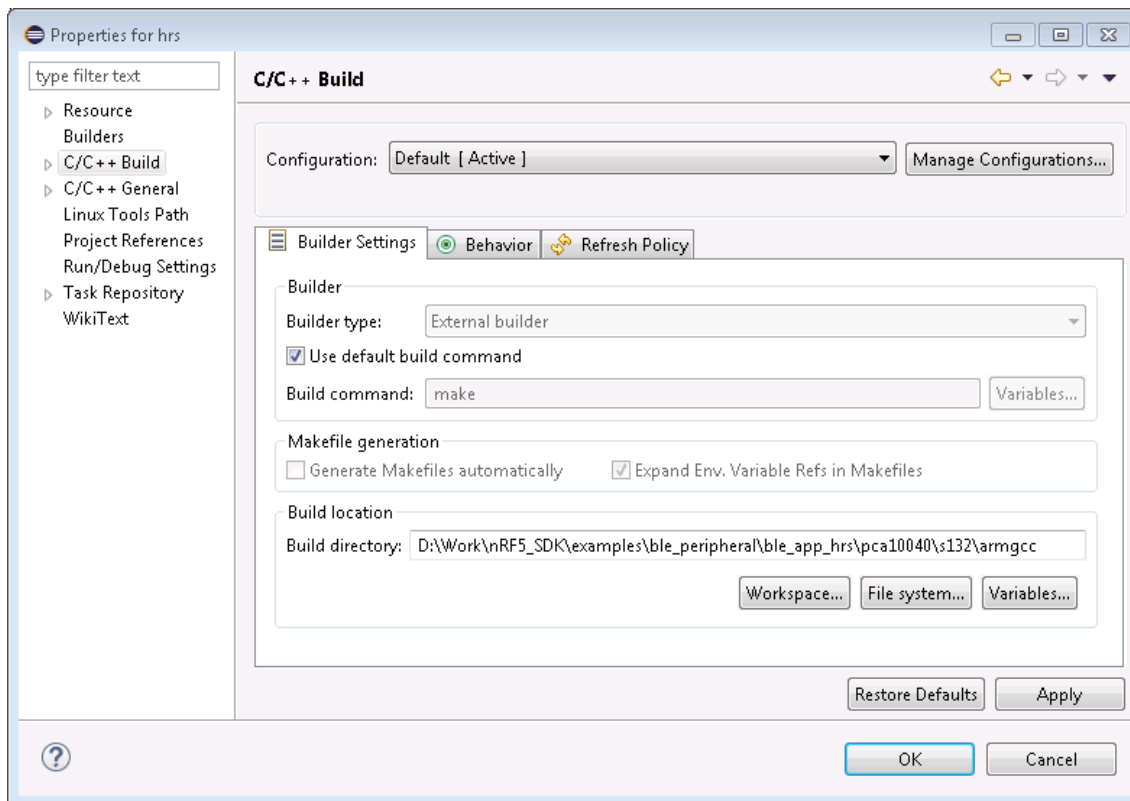

Figure 19: Adding Makefile location to project properties
11. Under the **Builder Settings** tab In the **Build directory** field, type the location of the Makefile that is used to build the project, e.g.: **D:\Work\nRF5_SDK\examples\ble_peripheral\ble_app_hrs\pca10040\s132\armgcc** (Figure 19).